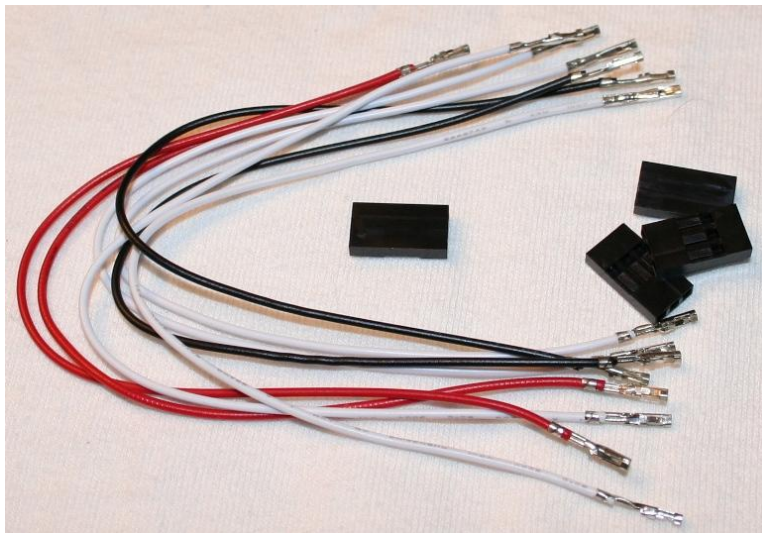

FIG 33. Prepare to Build Cables for GP2Y0D810Z0F Sensors.
Refer to figure 33 below for how to prepare to build cables for the GP2Y0D810Z0F sensors. You will need (2) each of the 6" red, white & black wires and (4) 3-position plastic connectors.